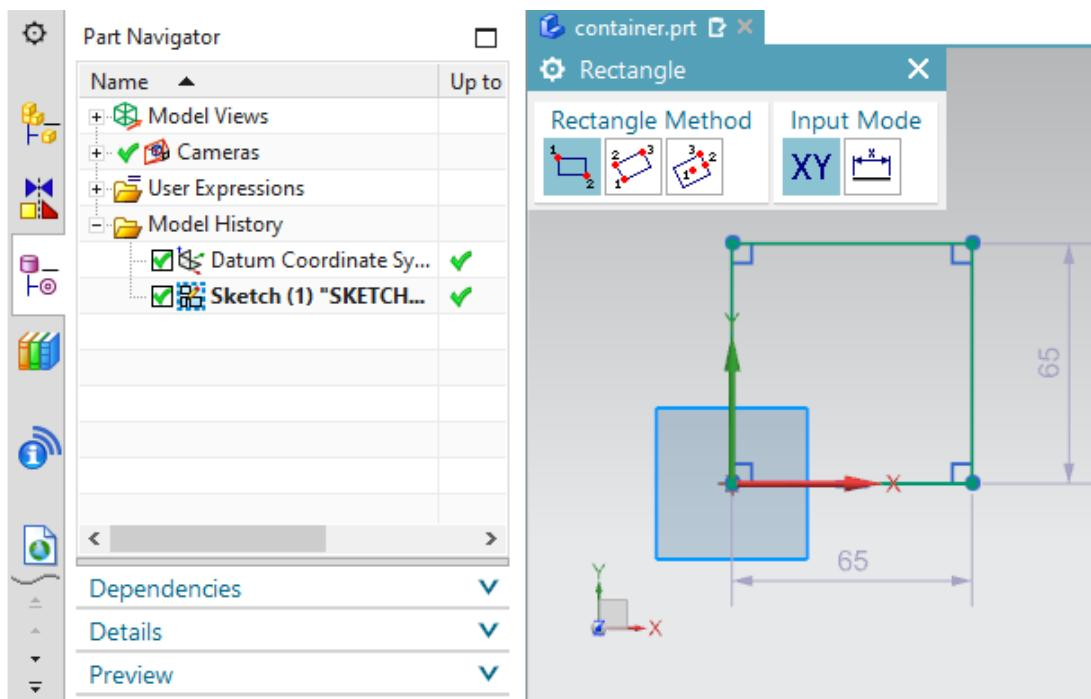

Figure 25: Sketch of the outer form of the container
- The first square forms the outer form of the container. For this purpose, you create a **square** with dimensions of **65 mm**, starting from the origin. The procedure is the same as explained in Chapter 7.1.1 except that different dimensions are used here. The result of the sketch is shown in Figure 25. Then close the sketch.